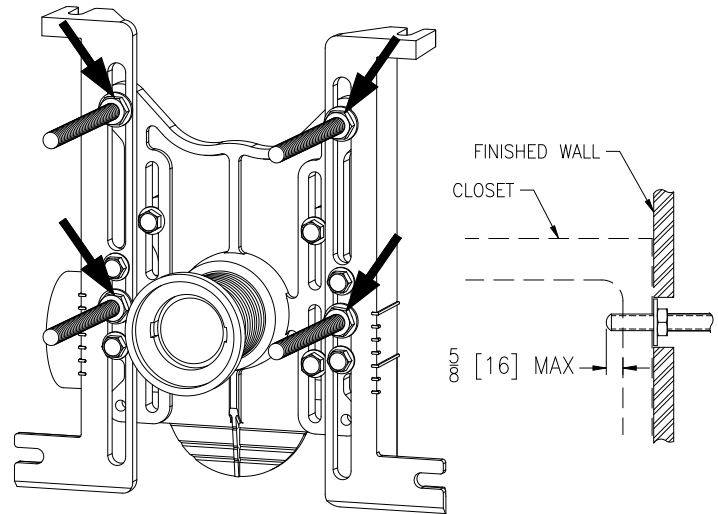

Fig. 13
13. Prep for finished wall. Fasten the (4) threaded rods from the finish bag into the faceplate, through the foot slots until each rod extends 5/8" [16mm] past the closet bowl flange. Add included 5/8" [16mm] washer to each lower rod, and secure nut on each of the four rods. See Fig. 13